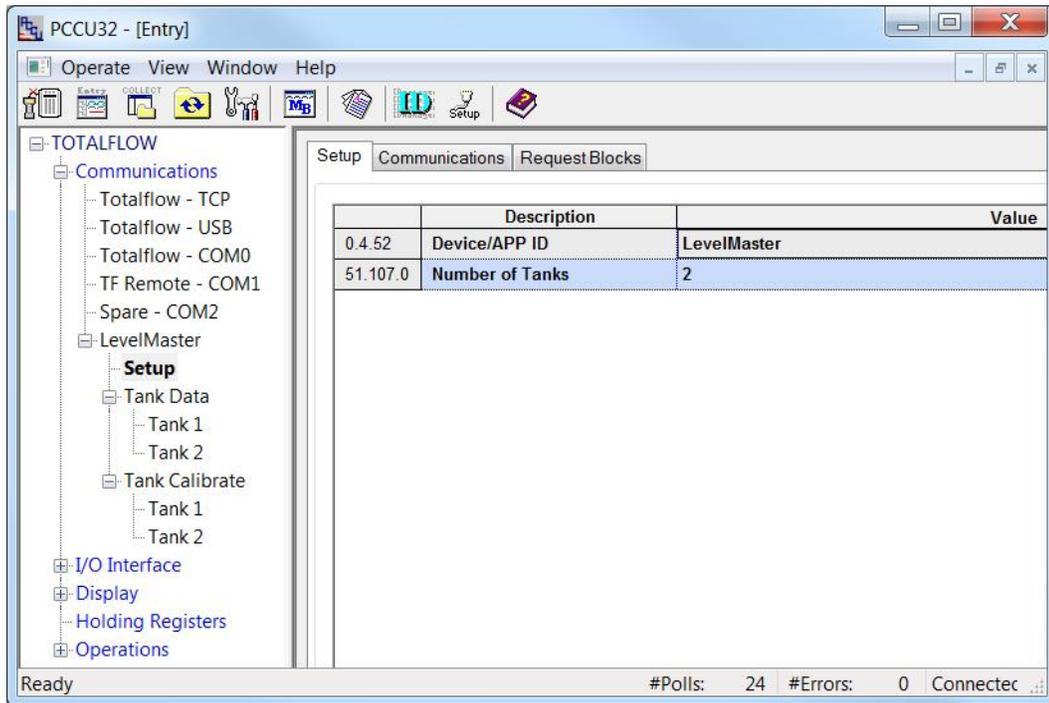

Figure 47: LevelMaster application Setup tab
4. On the **Setup** tab, the value of the Device/APP ID may be changed. Any name change will be reflected in the tree-view. (Figure 47).
5. Type the number of tanks that will be handled by the application. Figure 47 displays an application handling 2 tanks.